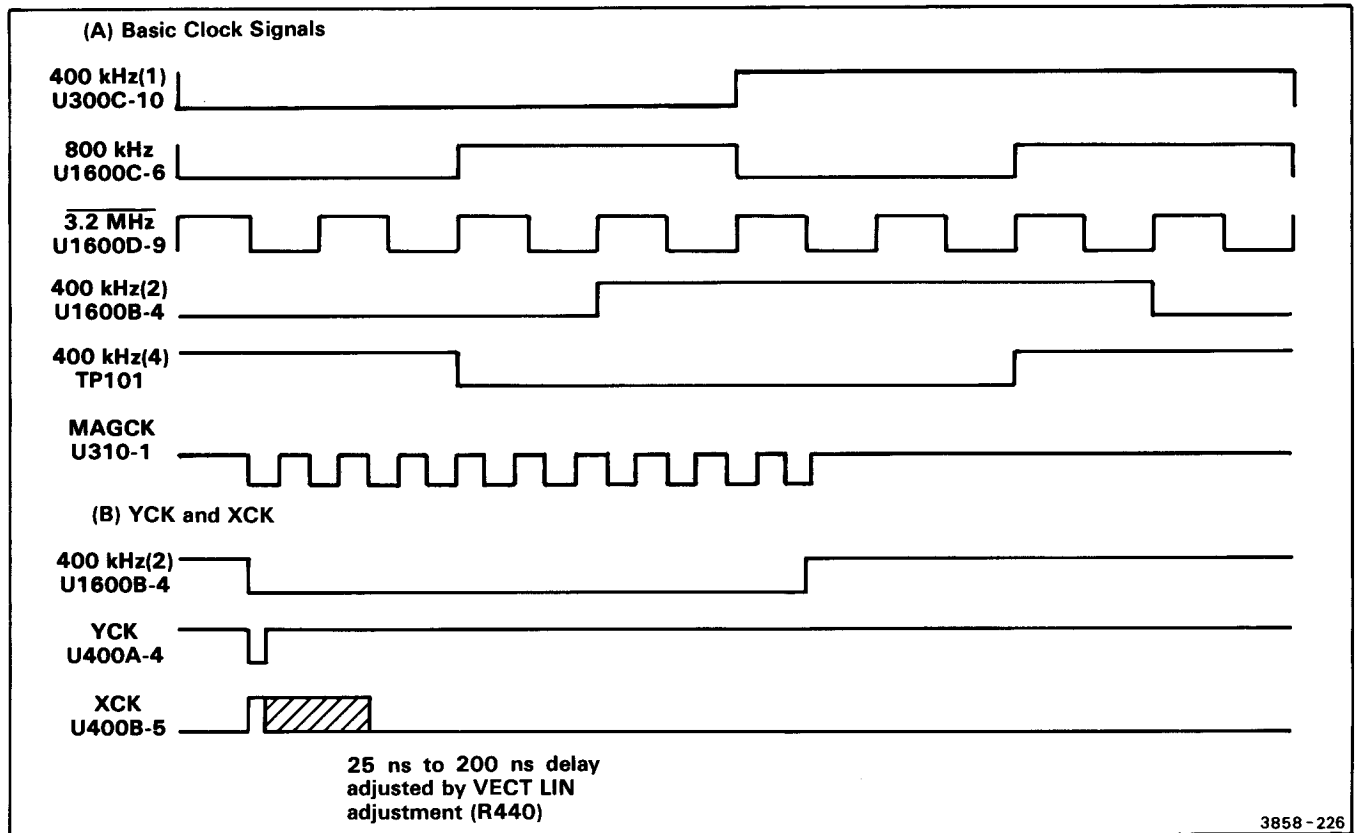

Figure 2-11. Display timing: (A) Basic Clock Signals; (B) YCK and XCK Signals.
The 400kHz(1), 400kHz(2), 800kHz, 3.2MHz and MAGCK signals from the Time Base board provide the basic timing information for the Display circuitry (see Fig. 2-11). In addition, U200A creates the 400kHz(4) and 400kHz(4) timing signals. Display clock multiplexer U310 selects one of four timing signals to drive the display length counter: MAGCK (X10 CLOCK), 800kHz (X2 CLOCK), 400kHz(4) (X1 CLOCK) and DISPLAY LENGTH COUNTER SINGLE STEP.